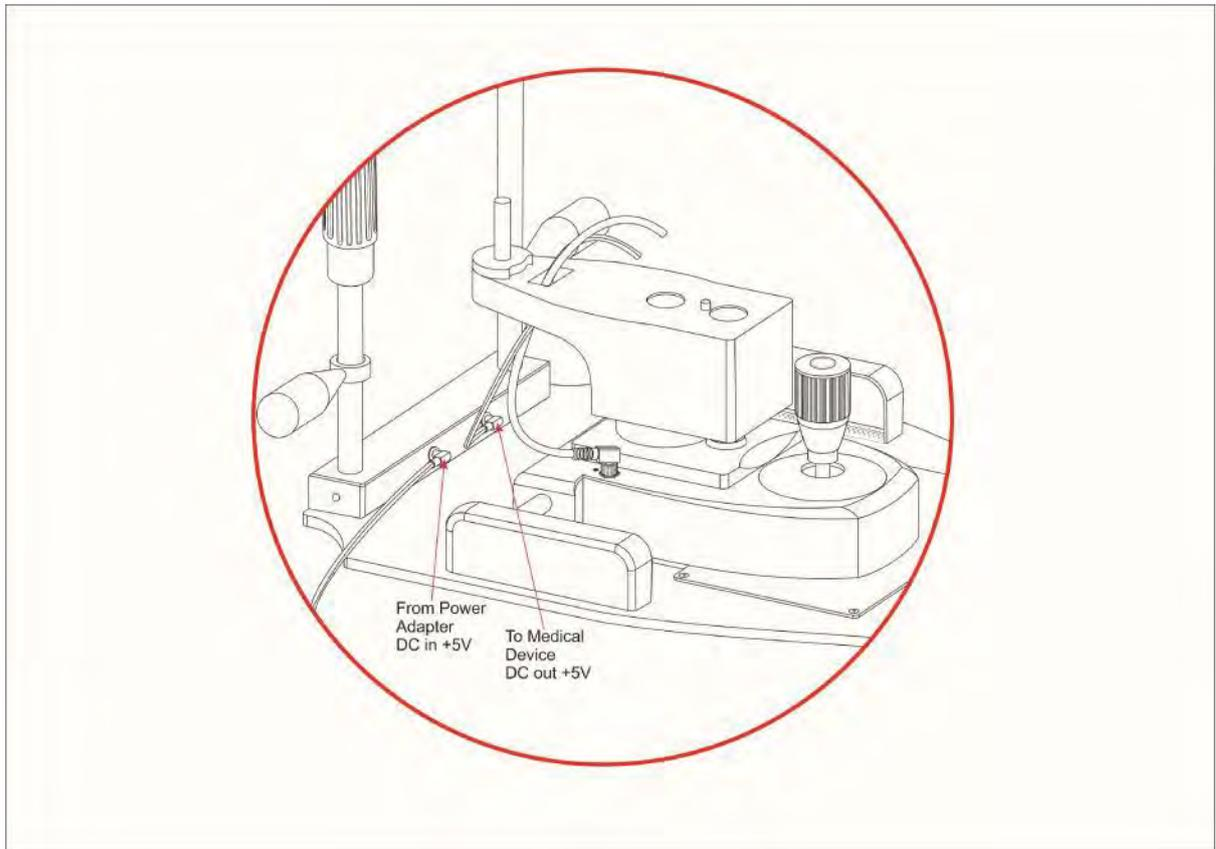

Figure 7: Connector to base of the chinrest.
1. Connect the power adaptor supply to the base of chin rest (Figure 7).